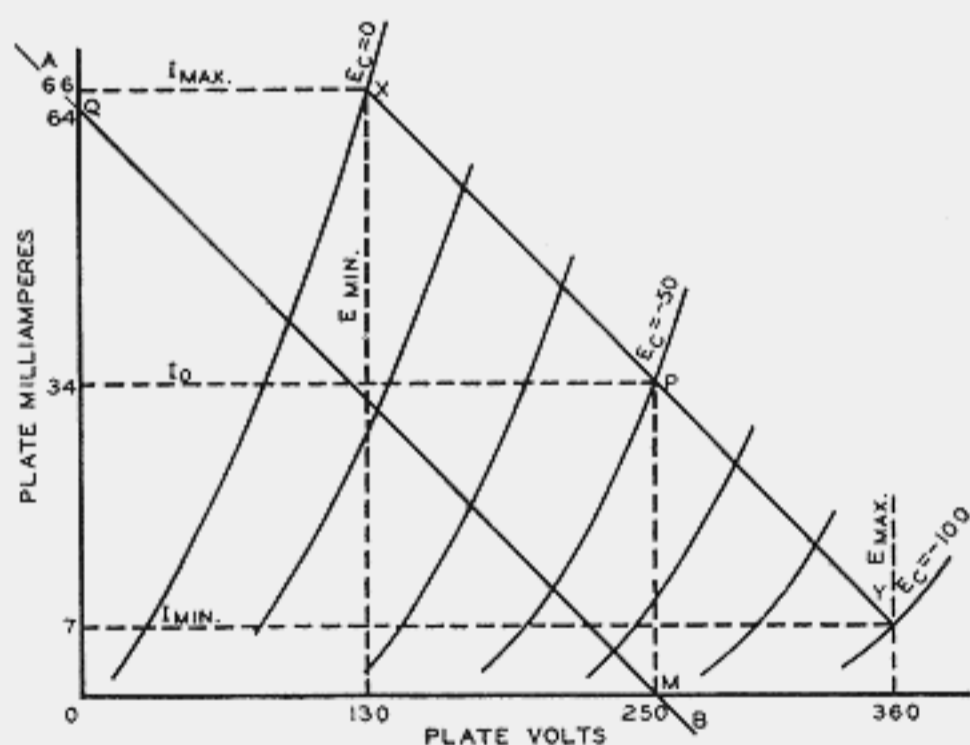

Fig. 8
Power amplifier output for triodes can be calculated without serious error from the plate family of curves by assuming a pure resistance load. The proper plate current, grid bias, and optimum load resistance, as well as the per cent 2nd harmonic distortion, can also be determined. The calculations are made graphically and are illustrated by Fig. 8 for given conditions. The procedure is as follows: A straight line XY is drawn on the plate family of curves intersecting the plate voltage at a trial value of plate current at a point (P) and having a slope corresponding to the load resistance chosen. The slope of XY is determined by adjusting the line so that the plate voltage intersection at zero plate current divided by the plate current intersection at zero plate voltage is equal to the trial load resistance value; or, as is sometimes more convenient, by drawing line XY through point (P) parallel to some other line AB which has the proper slope.